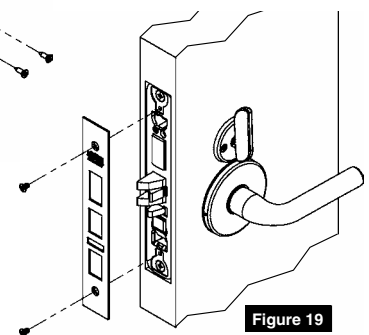

Figure 19
12. Install armored front. (Figure 19)